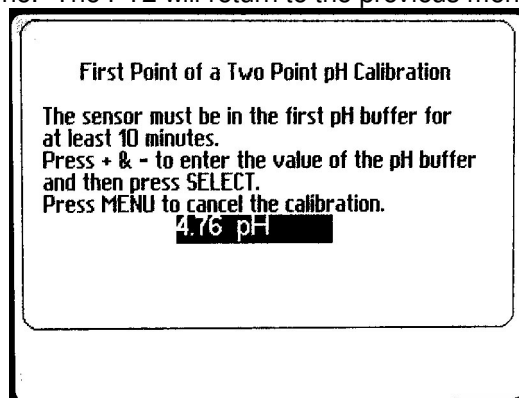

Figure 39 - First Point of a Two Point pH Calibration
4. From the FIRST POINT OF A TWO POINT pH CALIBRATION screen (Figure 39), use the + or – keys to change the pH value to agree with the buffer value. Press SELECT when done. The PT2 will return to the previous menu.